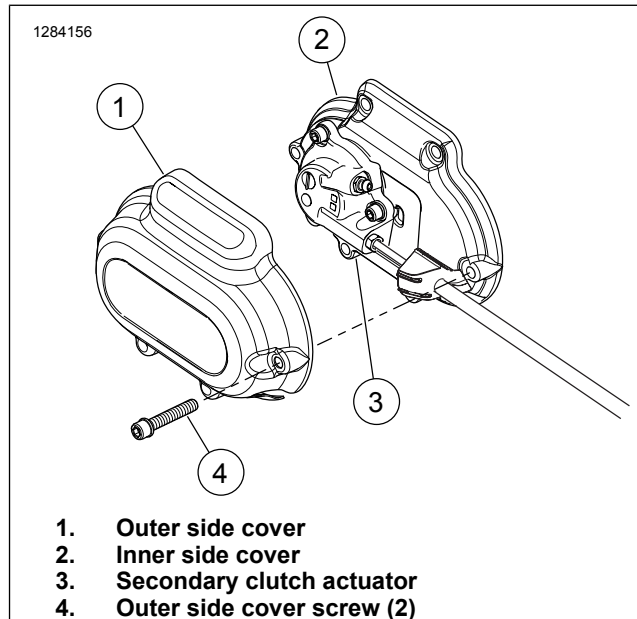

Figure 7. Transmission Outer Side Covers
1. Refer to Figure 7. Install outer transmission side cover.
- a. Install outer cover (1).
- b. Install screws (4). Tighten.